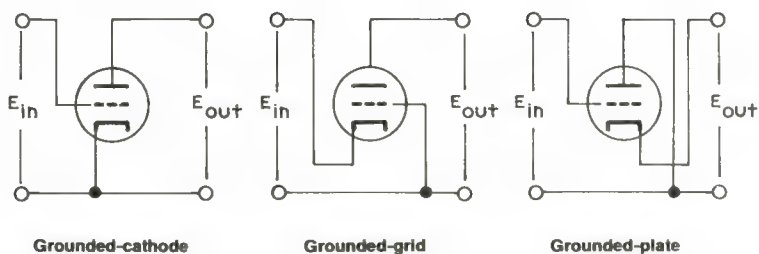

Figure E-12
2. They are also classified according to their external circuits. In this method, the circuit containing the amplifier tube is regarded as a four-terminal network with two input and two output terminals. One input and one output terminal are common, as shown in Figure E-12.
A cathode-follower circuit (see Figure E-12) has the following characteristics: